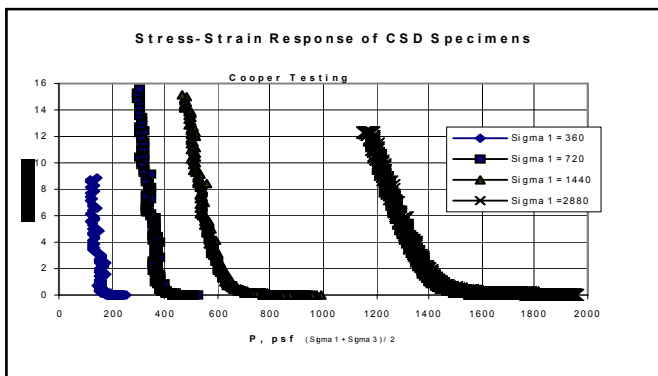
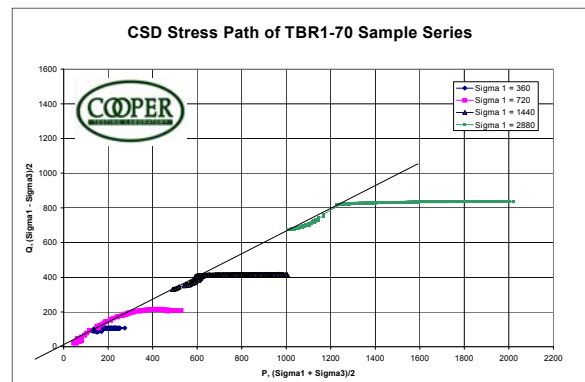

Figure 1
Figure 2
tion phase. The speed can be controlled accurately as low as .0001"/min. maybe even slower. The pumps can be run under pressure or volume control. Basically we can control any stress desired in a stress path test which this testing actually is. For the back pressure saturation phase the pumps were set to ramp up to 110 & 112 psi over 1000 minutes. A "B" reading was taken and if it exceeded 0.98 the consolidation phase was started. The samples were consolidated anisotropically to a Kc of 0.4 (2.5). The consolidation phase took typically 36 to 48 hours. Once the samples were fully saturated and consolidated the loading can begin. The axial load and confining pressures were held constant while the back-pressure was increased at a rate of 0.1 psi per hour to insure a fully drained condition. The strain was measured throughout the entire test as shown in figure 1. Four samples were tested per strength envelope. The stress path of each was plot-
ted on a P vs. Q diagram. As shown in figure 2 the test progresses from right to left. The line is horizontal for most of the test because the sample can support the axial load so the shear stress (Q) is constant. As the confining pressure is reduced to the same degree the pore-pressure increases the line will start to drop down toward the origin. The sample starts to strain because it can no longer support the axial load due to the decrease in confining pressure, (see figure 1). This is the yield point. This is the beginning of catastrophic failure or flow. The test may run for days without any strain at all. When the sample does finally start to strain it may go 15 to 20 percent in a matter of minutes. If allowed to the stress path will go all the way to the origin. It may gently wave up and down a bit on its way but it does go to the origin. It is fun to watch. (I don't get out much). The volume change measurements show an increase during this phase. I assume that the sample is